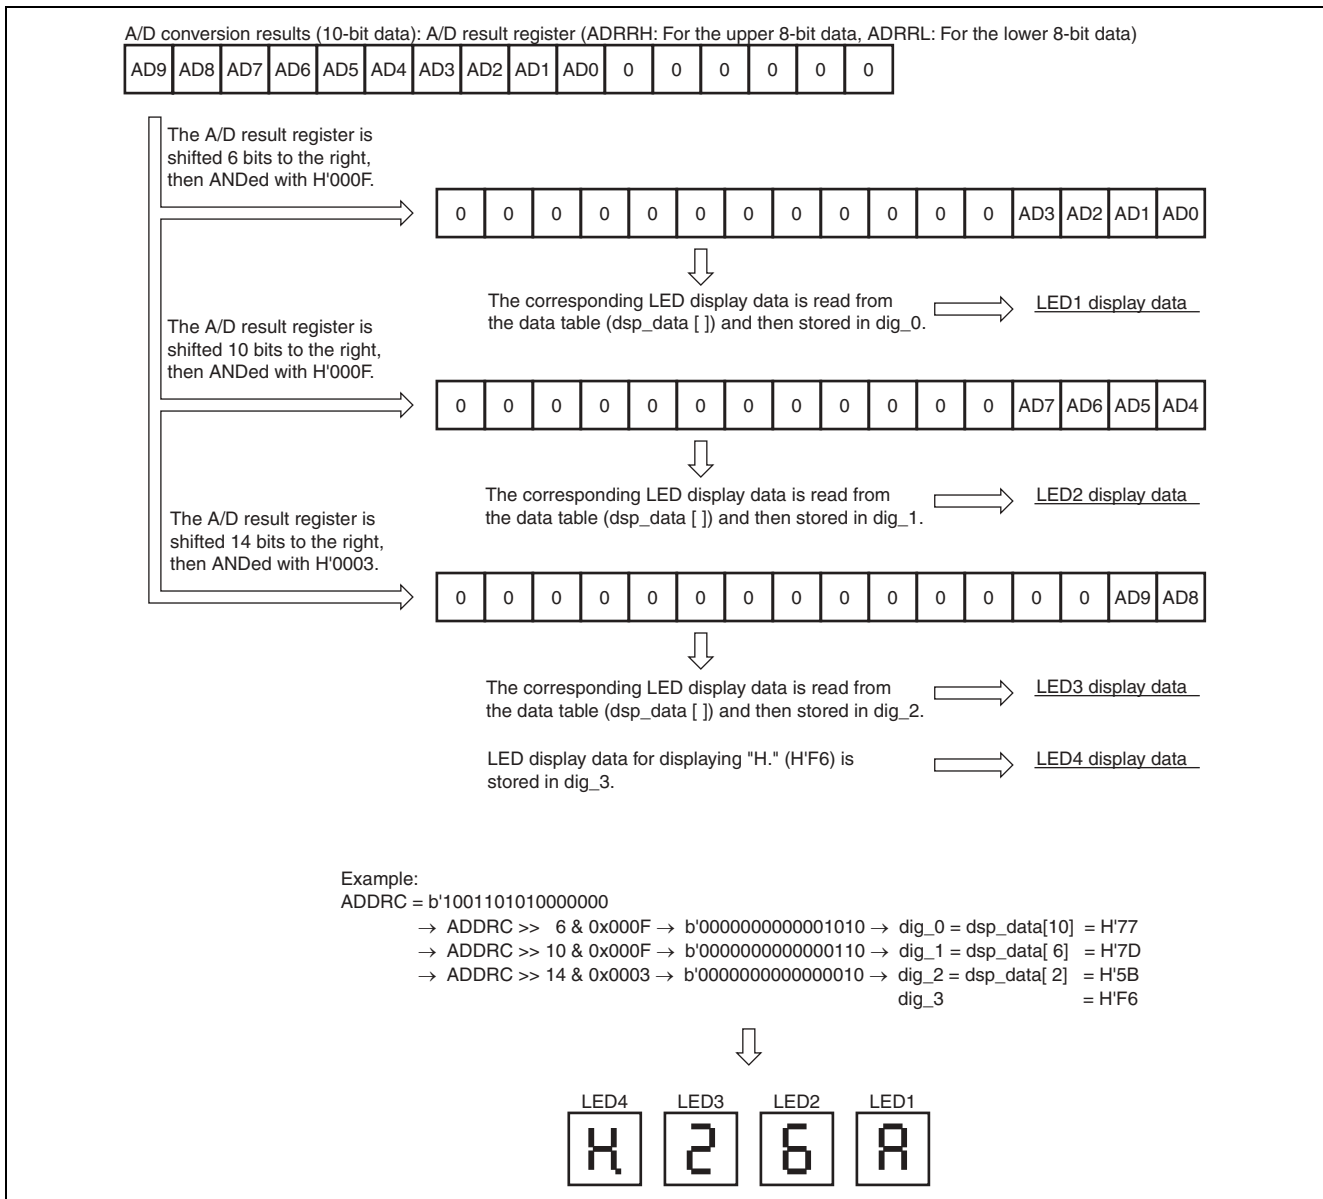

Figure 1.3 How A/D Conversion Results are Displayed on the LEDs
8. In this sample task, the results of A/D conversion are displayed in hexadecimal format (H'3FF to H'000) on the 7-segment LEDs. Figure 1.3 shows how this is done.